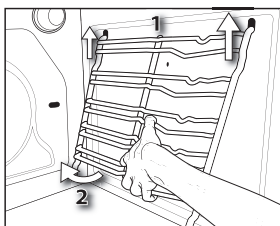

Fig. 5
2. To remove the grilles, lift the up (1) and turn them (2) as shown in Fig. 5.